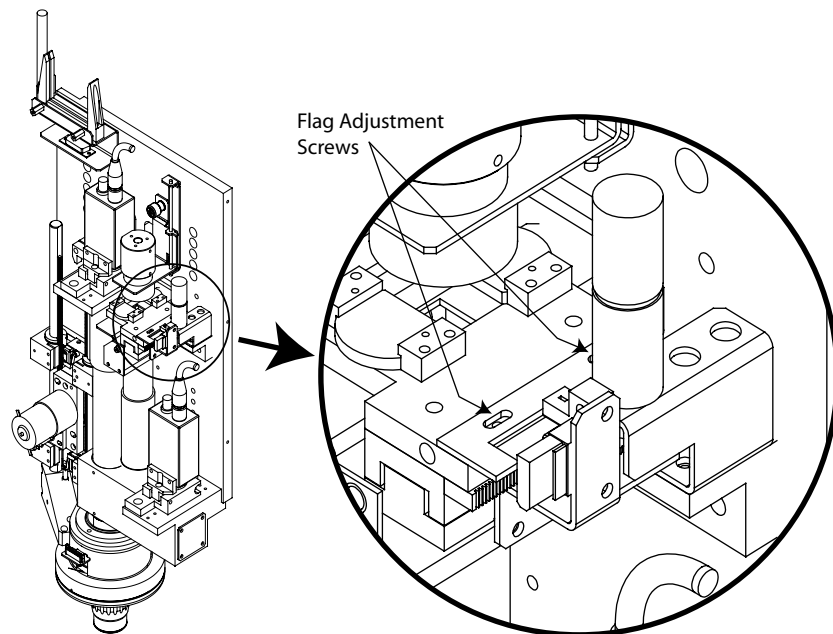

Figure 8-8 Flag Adjustment
- f. Look at the Low Mag camera image in the View Metrology Software (VMS) video window, and check to see if either of the grids is partially visible at the top or bottom of the screen. Gently push the shuttle back and forth within its center position *dead band*. If you can see either grid starting to enter the video window, adjust the shuttle flag position; see Figure 8-8.